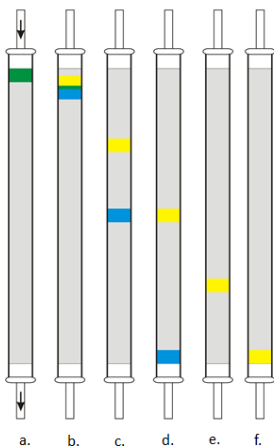

Figure 2: Separation of dyes.
5. Open the stopcock and allow the eluent to drain into the waste beaker. Drain until the EtOH is **1-2 mm** or **~ 1/16”** above the alumina. While the EtOH drains, the methylene blue band should be observed to be moving down the column. The yellow fluorescein should remain at the top of the column. (See Figure 2.) The flowrate of the mobile phase (solvent) should be about 1 drop every 2-5 seconds.*